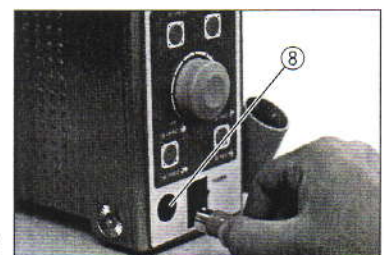

Fig. 3
Insert the motor cord plug in Output Connector ⑧ (Fig. 3)